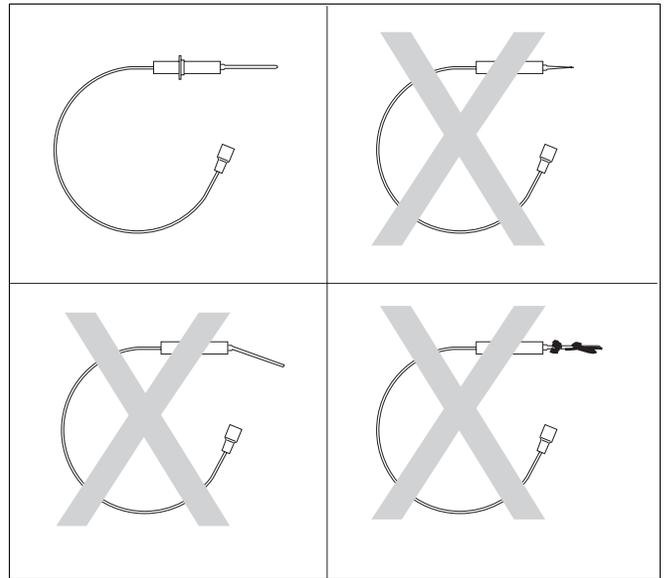

Fig. 87 Checking the ionization electrode
- Check the ionization electrode (fig. 87 and 86) and the glow ignitor for contamination, wear or damage.